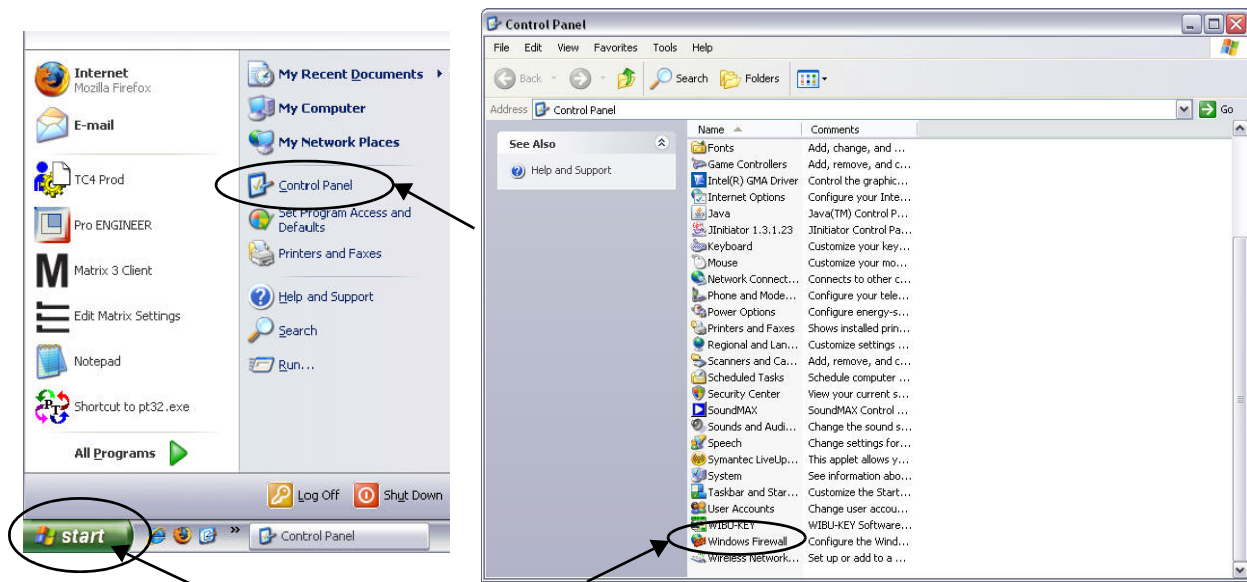

FIG. 24
1. To launch editor, click on Start/All Programs/Windows Firewall (FIG. 24).